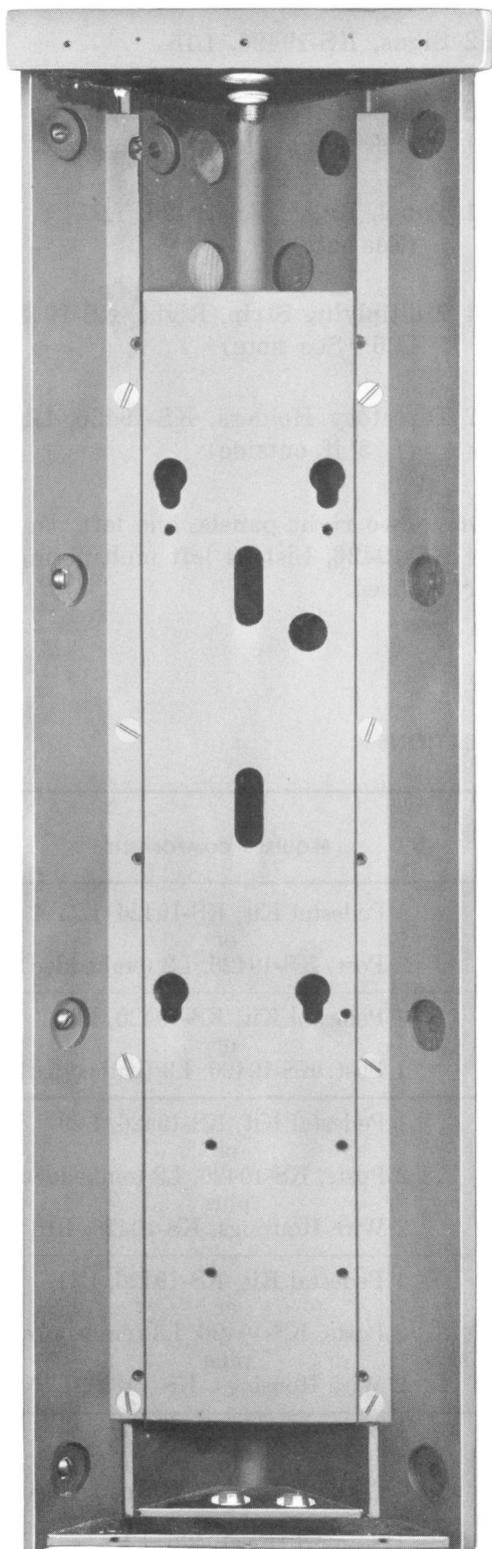

Fig. 13 — KS-19426, List 4 Support
(c) A List 4 support (Fig. 13) must be used for post-mounted applications when housings are installed in multiples of three and four. See Fig. 5.
- (a) A List 4 support (Fig. 13) is used for mounting a housing in a corner.